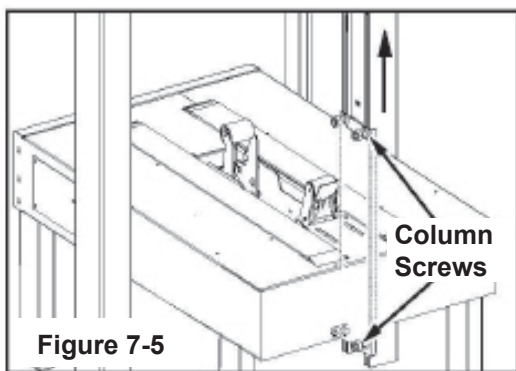

Figure 7-5
1. Using a 6mm hex wrench, loosen the four (4) screws (**Figure 7-5**) in the column without the height adjustment handle.
3. Fasten the four (4) column screws.
4. Using a 6mm hex wrench, loosen the four (4) screws that secure the column (with the handle) to the machine bed.
6. Fasten the four (4) column screws.